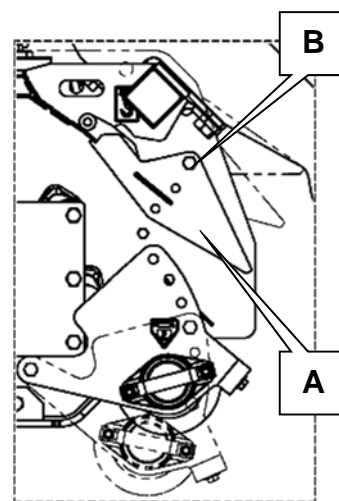

Figure 6.8
6.1.6.2 The adjustable rear guard (see Figure 6.8 A) is fastened at each end of the cowl by a bolt (see Figure 6.8 B).